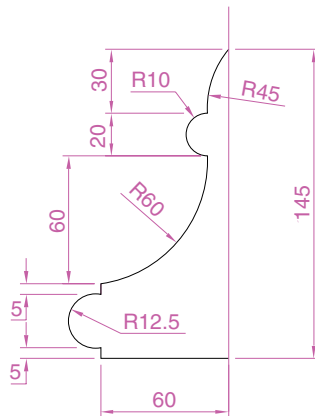

Fig. 18.22 Exercise 3
- Construct a surface of revolution from the polyline outline given in the left-hand drawing of Fig. 18.22. Add lighting and a suitable material and render.